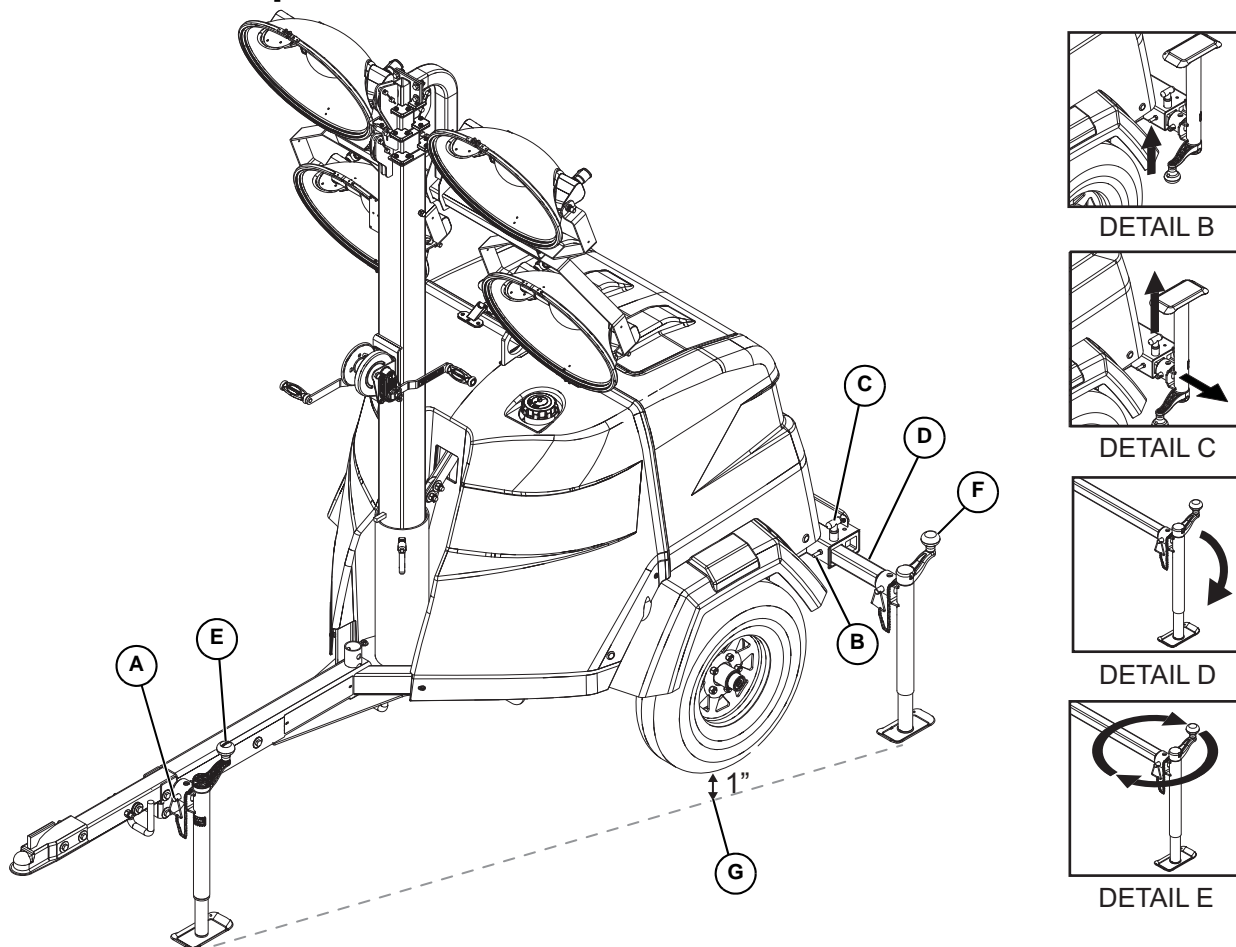

Figure 3-1. Set Up Outriggers and Jacks
2. See Figure 3-1. Place the unit on firm ground that is relatively flat (less than 5° slope), and then block the wheels to keep it from moving. This will make it easier to level the unit.
3. Pull the locking pin (A) on the tongue jack (E) and rotate the jack 90°. Reinstall the locking pin. Rotate the jack handle clockwise to raise the trailer tongue off the towing vehicle.
4. A grounding stud (B) is located on the rear frame of the trailer near the left side outrigger. For grounding requirements, follow local, state, or National Electrical Code (NEC) guidelines.
5. See Details C—D. Pull the locking pins (C) on the outriggers (D) and pull each outrigger out until the spring loaded locking pin snaps back into place. Pull the locking pin on each outrigger jack (F) and rotate each jack 180° so the jack pad is facing down. Reinstall the locking pin.
6. See Detail E. Rotate each jack handle clockwise to start leveling the trailer. Adjust all three jacks by rotating their handles clockwise until they are firmly in contact with the ground. Continue until the wheels are approximately one inch (2.5 cm) off the ground (G).